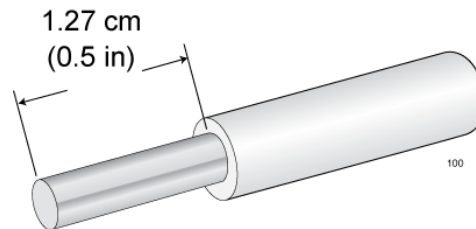

Figure 43. Stripping the Grounding Wire
1. Prepare an adequate length of stranded grounding wire (10 AWG) for the ground connection by stripping it as shown in Figure 43.